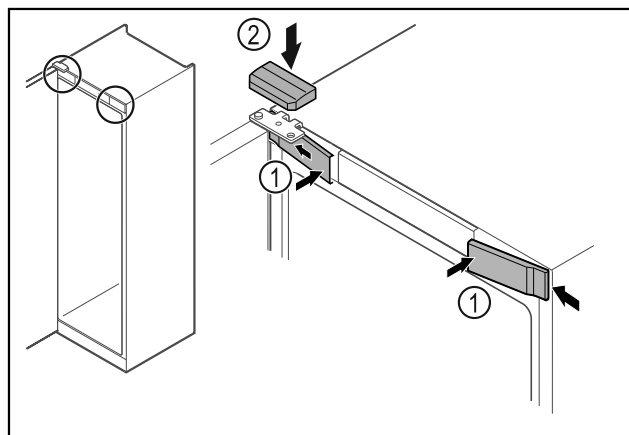

Fig. 67
- Hook in the front covers Fig. 67 (1) on the side and snap them into place.
- Snap on the top cover Fig. 67 (2) from above.